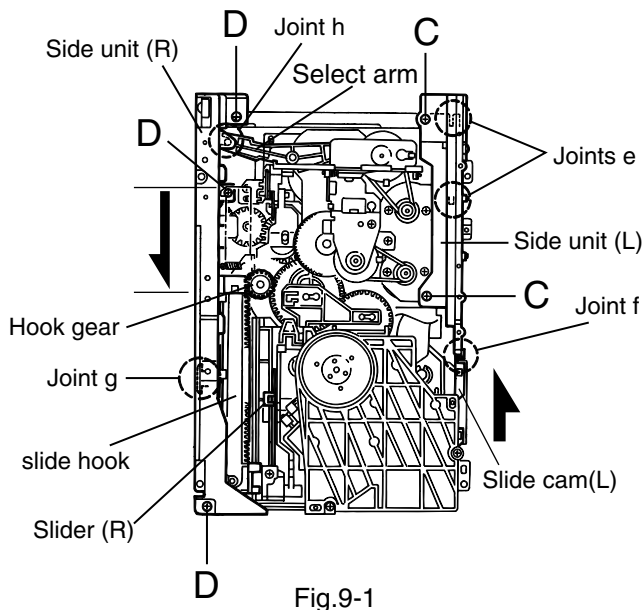

Fig.9-1
■ **Removing the side unit (L) and (R)**
**(See Fig.9-1 to 9-5)**
1. Remove the two screws C attaching the side unit (L).
2. Slide and remove the side unit (L) toward the front while releasing the two joints e and the joint f with the chassis unit.
3. Slide the slide cam (L) toward the front until it stops to place the sub chassis unit at the top position.
**ATTENTION:** The side unit (R) can be removed when the sub chassis unit is located at the top position.
4. Turn the hook gear counterclockwise to move the slide hook and the slider (R) backward until they stop.
5. Remove the three screws D attaching the side unit (R). Raise the side unit (R) upward and release the joint g with the chassis unit and the boss from the select arm marked h. Then remove the side unit (R) from the body.